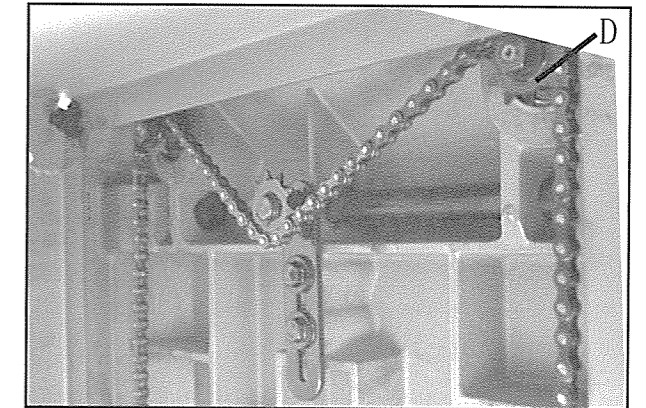

Fig. 23
NOTE: A. Turning sprocket (D) Fig.23, clockwise will increase the distance between the working table and head casting, counter-clockwise will decrease the distance.
4. Remove chain from sprocket on corner of base that must be adjusted in Fig.23 chain has been removed from sprocket (D).
Turn sprocket (D) Fig.23 by hand to bring that corner into adjustment with other three corners.